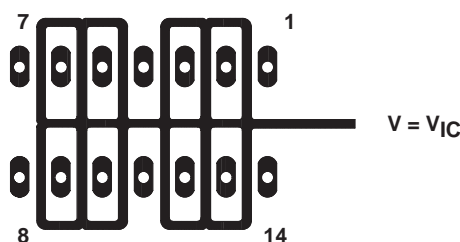

Figure 4. Isolation Metal Around Device Inputs (J and N packages)
1. Isolate the device from other potential leakage sources. Use a grounded shield around and between the device inputs (see Figure 4). Leakages that would otherwise flow to the inputs are shunted away.